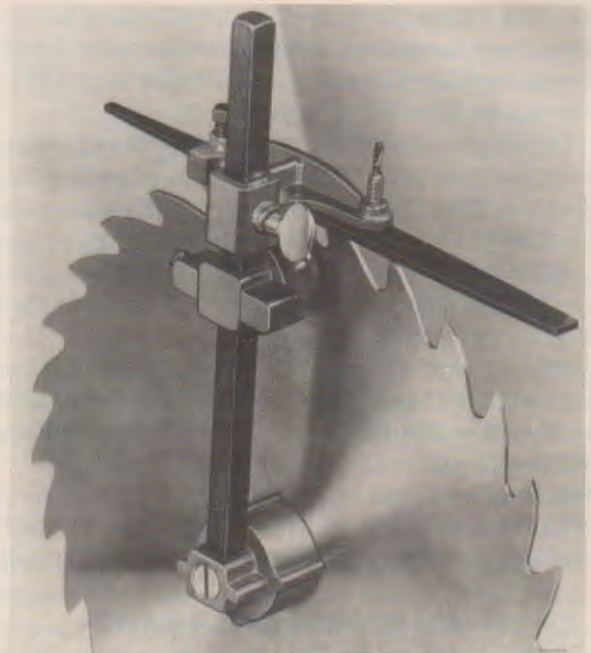

Fig. 21-63. This Style V combination blade is being jointed by hand. (Brookstone)
1. Rotate the secure blade against the file in a hand jointer, Fig. 21-63.